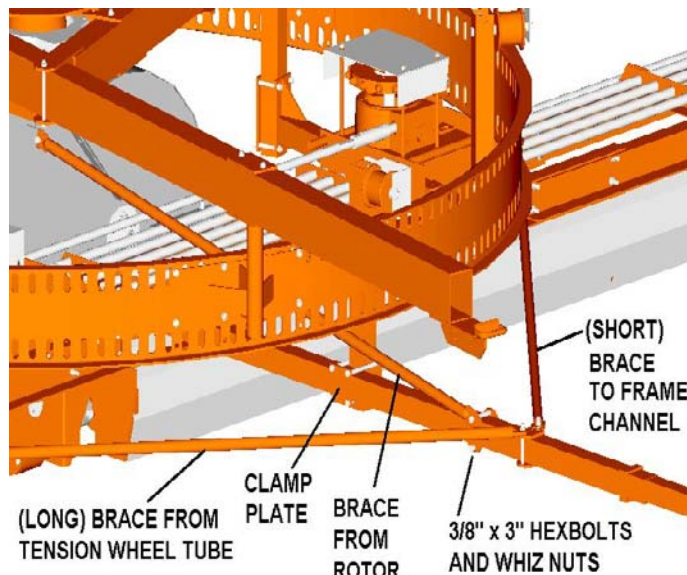

FIGURE 35
NOTE: To avoid disassembly later, bolt an angle for the grill covers to the forward slide support at this time with the flat leg of this angle pointing toward the rotor. See Figure 35
2. Install a rotor support assembly onto the top drive ring flange and connect the vertical tube of this assembly to the front side of the guide wheel tube using (2) clamp plates and (4) 3/8" x 5" bolts and whiz nuts. Position so the vertical tube extends straight down and perpendicular to the spreader arm tube. Spreader arm tube to be supported level. See Figure 35.
4. With a whiz nut attach the shorter of the (2) remaining wheel tube braces to the lower end of the front bolt on the second sandwich clamp on the spreader arm tube. See Figure 35. Attach the opposite end to the bottom leg of the LH frame channel nearly directly below the front ring drive slide support with a 3/8" x 1" carriage bolt and whiz nut.
5. Bolt the tension arm tube to the inside of the RH main frame channel directly beneath the motor mounting plate with (2) 3/8" x 3" hex bolts and whiz nuts. Install so the longer bolts on the sandwich clamps for attaching braces are on the front side. NOTE: If the tension wheel caster bracket is not factory assembled to the tension arm tube then do so before mounting the wheel tube.
6. Attach the remaining wheel tube brace to the long bolt on the outer sandwich clamp of the tension arm tube and the same on the spreader arm tube using (2) whiz nuts. See Figure 35 + 36.